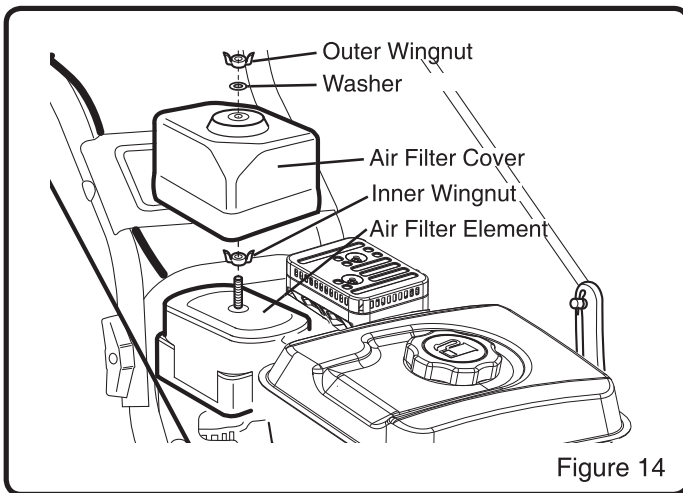

Figure 14
**NOTE:** Refer to Figure 14 when following steps below: